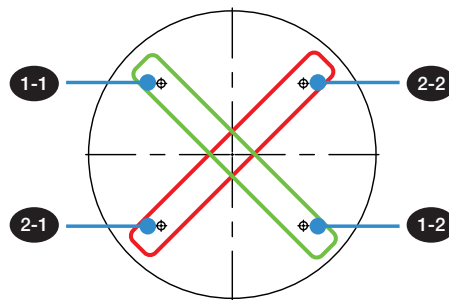
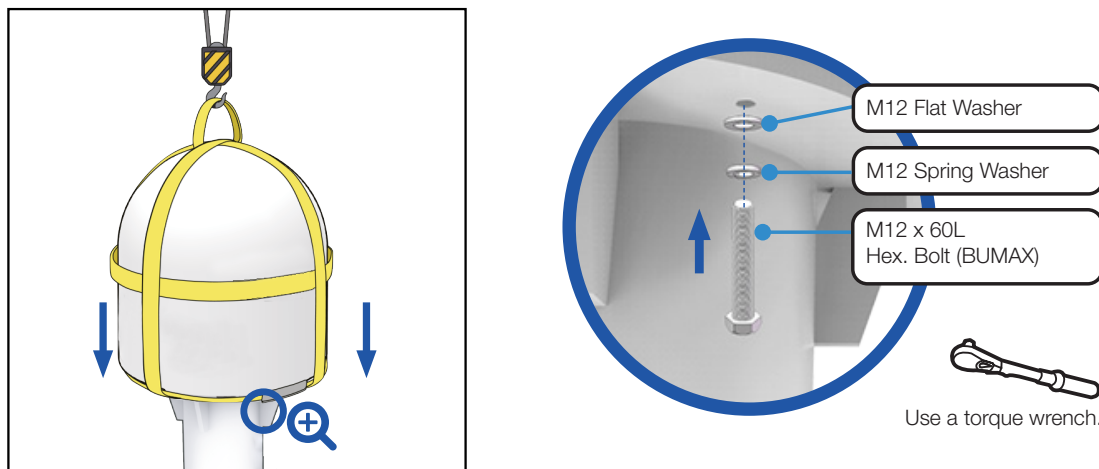

Figure 14: Installing Sequence of Bolts
Figure 15: Installing Bolts for Antenna-Mast Assembly
3. Apply Loctite #263 to the bolt threads, insert the bolts and washers from under the mast into the built-in nuts on the bottom of the radome (see Figure 15), and then lightly tighten them by hand. Use a crisscross sequence as shown in Figure 14.